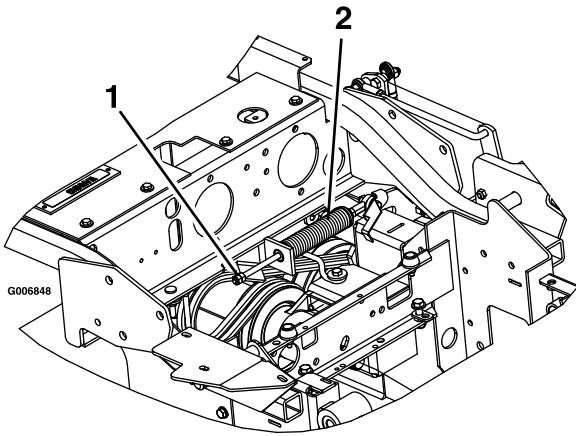

Figure 60
3. Locate the brake spring and thread the 2 jam nuts out to the end of the brake-spring rod (Figure 60).